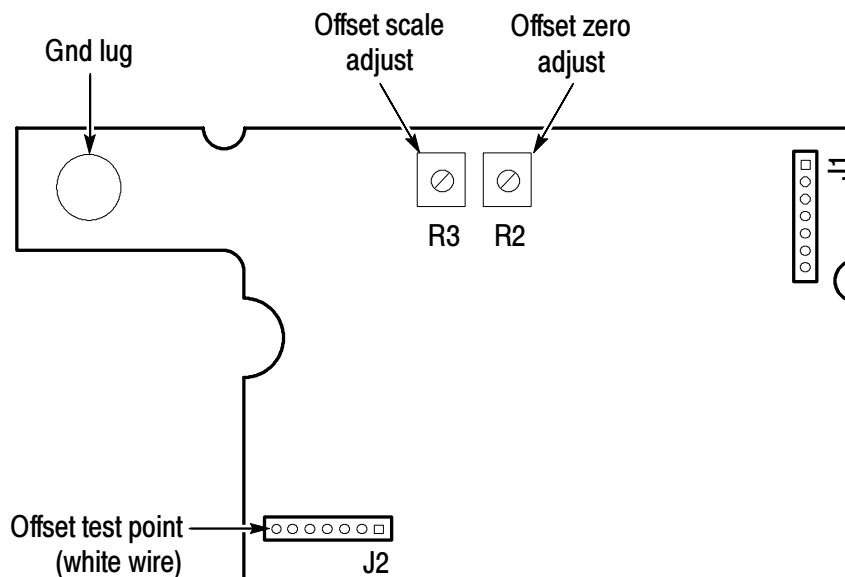

Figure 17: P6209 adjustment and measurement locations
Refer to Figure 17 for the location of the offset adjustments and measurement test points.
5. Using the (-) lead of the DMM, probe the ground lug in the probe comp box. Refer to Figure 17 on page 44.
- Using the (+) lead of the DMM, carefully probe pin 7 of J2 (white wire) in the probe compensation box. Refer to Figure 17 on page 44.
- Adjust **Offset Zero** (R2) in the probe compensation box for 0.00 V, ± 1 mV on the DMM. Refer to Figure 17 on page 44 for the adjustment location.
Use this procedure to adjust the offset scale of the probe. The offset zero of the probe should be checked before making any adjustment to the offset scale. Refer to Figure 17 on page 44 for the location of the test points and adjustments.